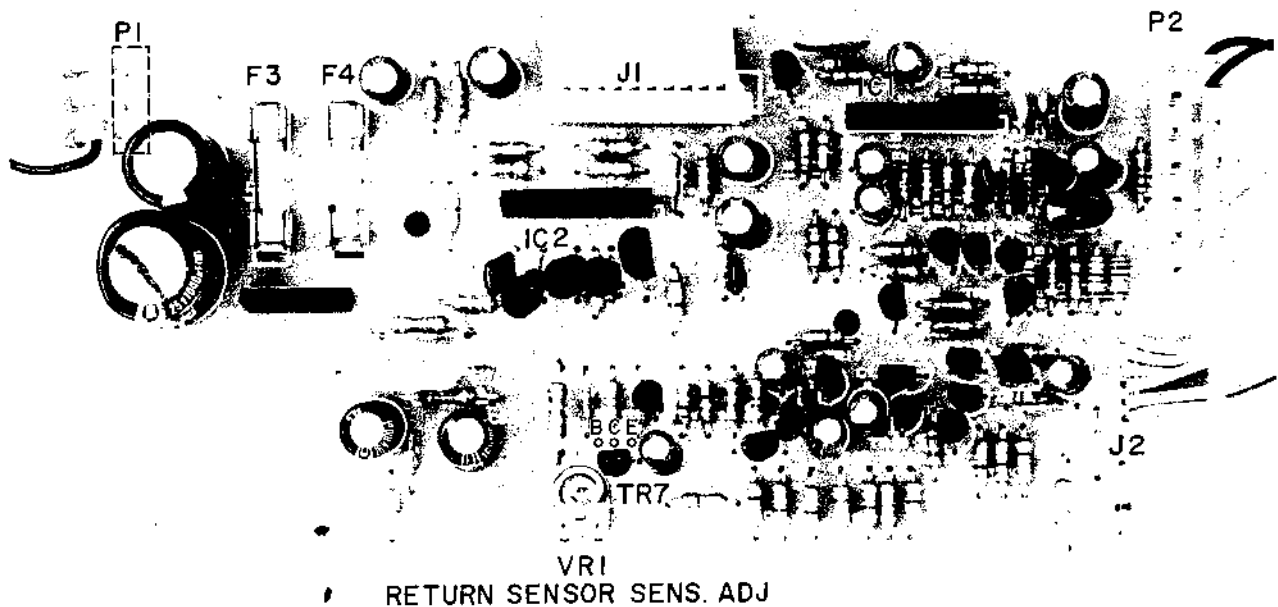

Fig. 8 D.D. Servo PCB
2. RETURN SENSOR SENSITIVITY ADJUSTMENT (Refer to Fig. 8)